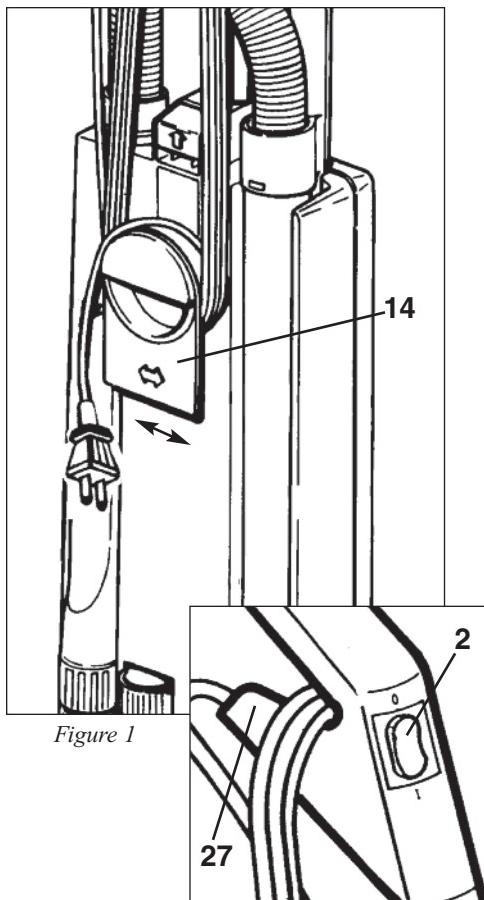

Figure 1
Starting The Machine - Figures 1 & 2
1. Turn the quick release cable hook (14) to the up position by moving it to the left or right (figure 1).
The attachment tube (15) is useful for vacuuming corners and hard-to-reach areas. The handle grip (1) should be in the upright, locked position (**as shown in figure 1**). Grip the attachment tube handle (11), pull it up and away from the machine and stretch out the hose (12) until it locks to the back of the tube (this locking action will prevent the hose from retracting back into the attachment tube while it is in use). Various attachments may be inserted onto the end of the tube. After use, remove attachment and re-insert the attachment tube into the back of the machine. **Be sure that the attachment tube handle (11) is inserted over the projection tab (see #23, page 5).** If the attachment tube handle is properly seated over the projection tab, the hose will automatically retract and you may resume vacuuming. There is no need to turn off the vacuum while switching from upright vacuuming to using the attachment tube or hose.